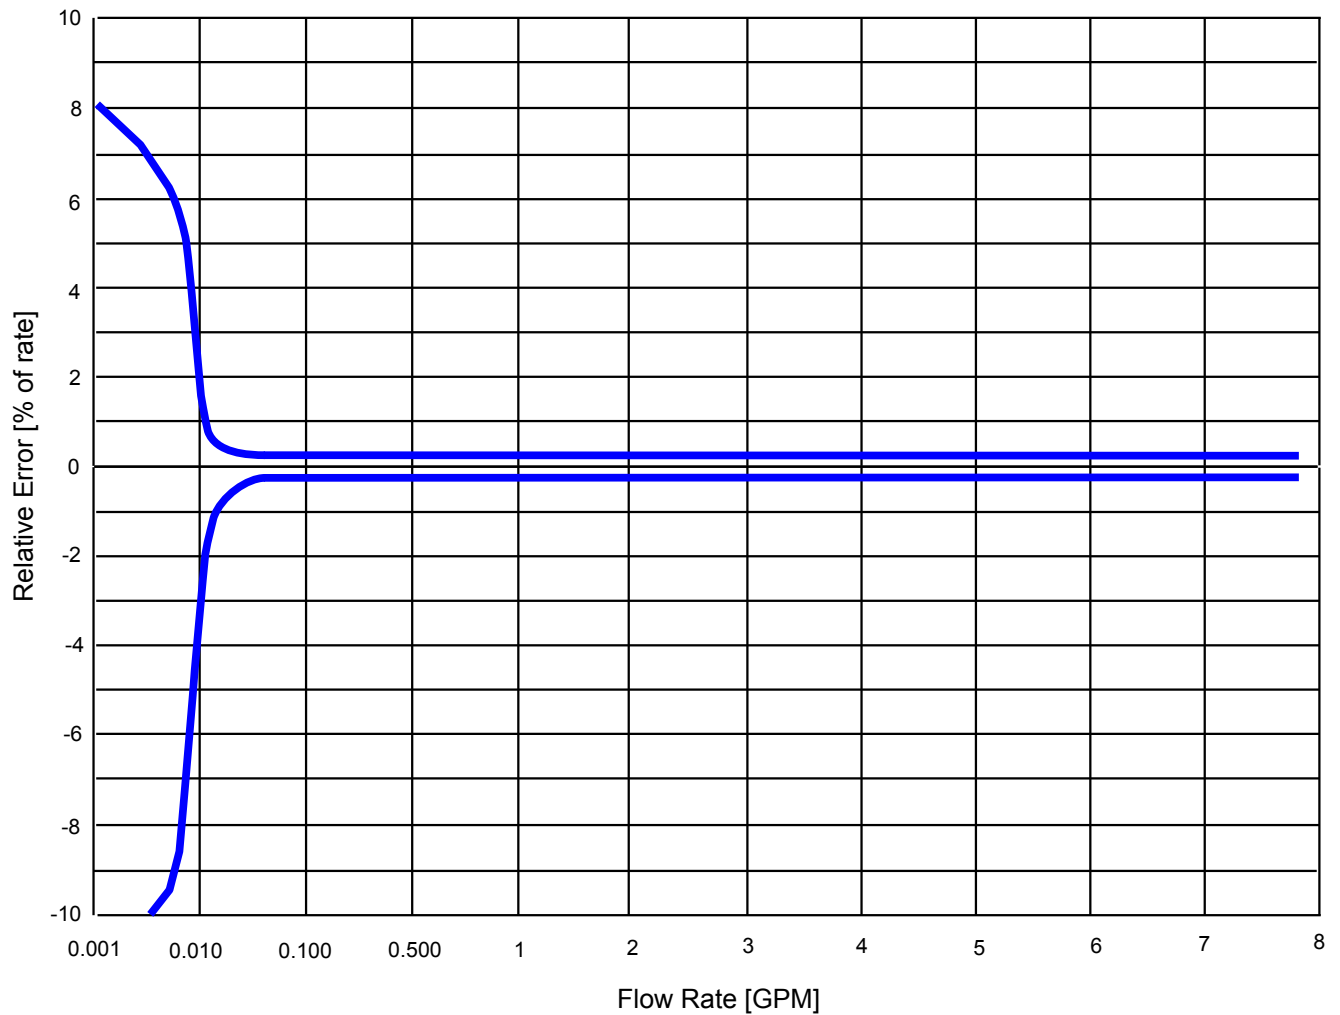

Fig. 1 GMAG100 error vs. Flow Rate, typical
**Note:** The flow rate on Fig. 1 exceeds 6.6 GPM. When MODBUS is used to read flow rate and total, there is no limit. The limit is only by the mechanics of GMAG100 and we do not recommend using it above 8 GPM.